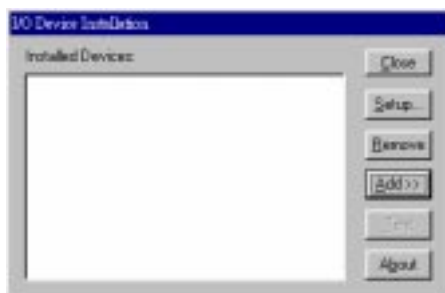

Fig. 2-6 The I/O Device Installation dialog box
Step 2: On the *Device Installation* program window, select the *Setup* menu item on the menu bar, and click the *Device* command (Fig. 2-5) to bring up the *I/O Device Installation* dialog box (Fig. 2-6). You can then view the device(s) already installed on your system (if any) on the *Installed Devices* list box. Since you haven't installed any device yet, you might see a blank list such as below (Fig. 2-6).